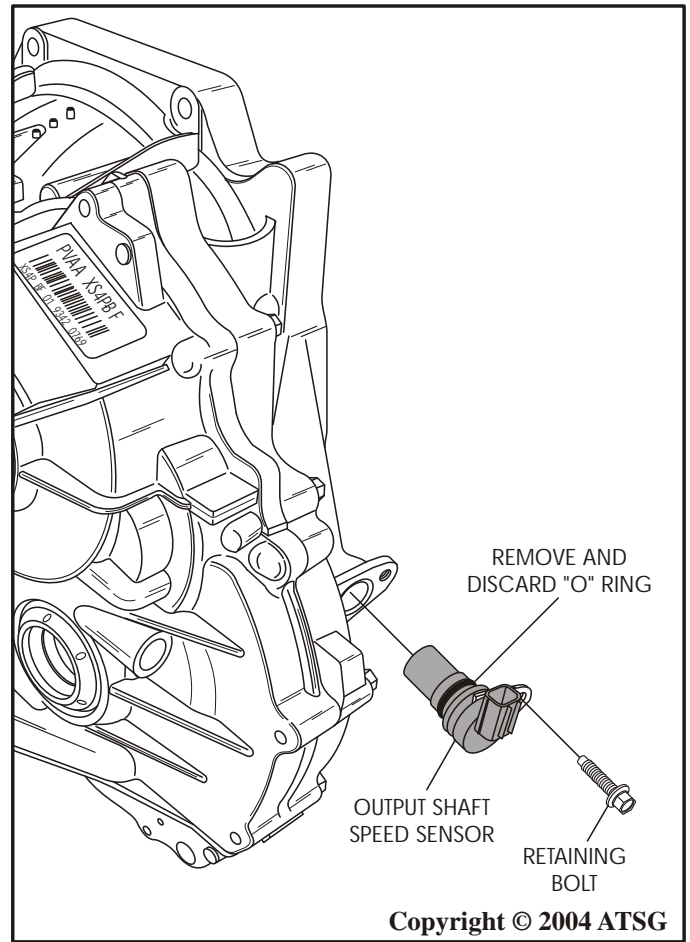

Figure 17
4. Remove the output speed sensor from the case, as shown in Figure 17.